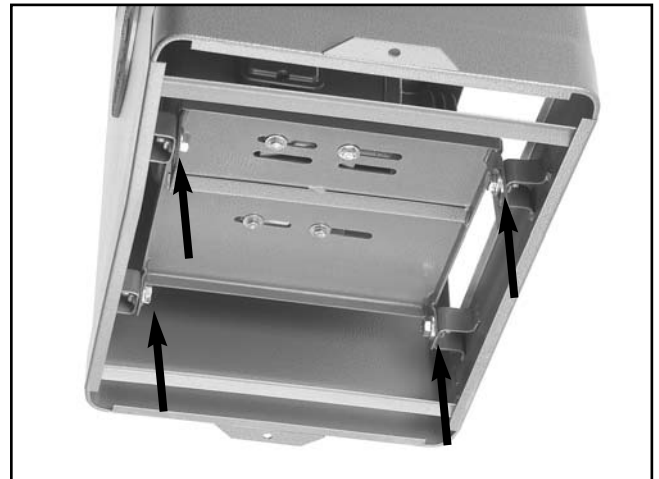

Figure 57. Motor adjustment bolts (shown underneath stand for clarity).
3. Loosen the motor adjustment bolts shown in **Figure 57**.